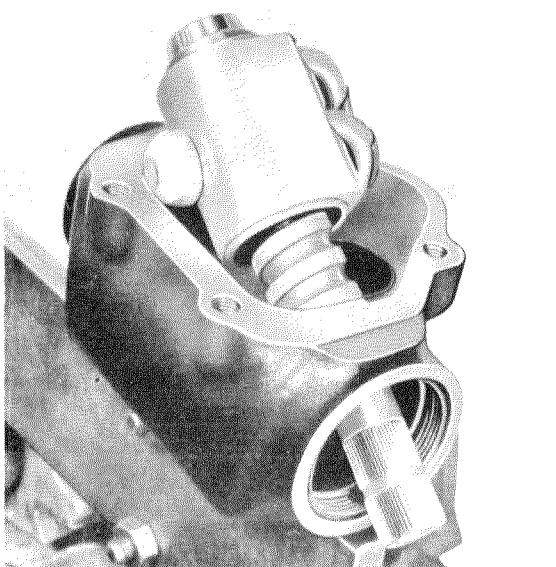

Fig. 46—4/10
26. Smear sealing compound on the lower threads of the adjusting ring (2) and screw the adjusting ring into the housing; when doing this, press Guide Sleeve (1) 180 589 00 61 onto the steering worm (Fig. 46—4/11).